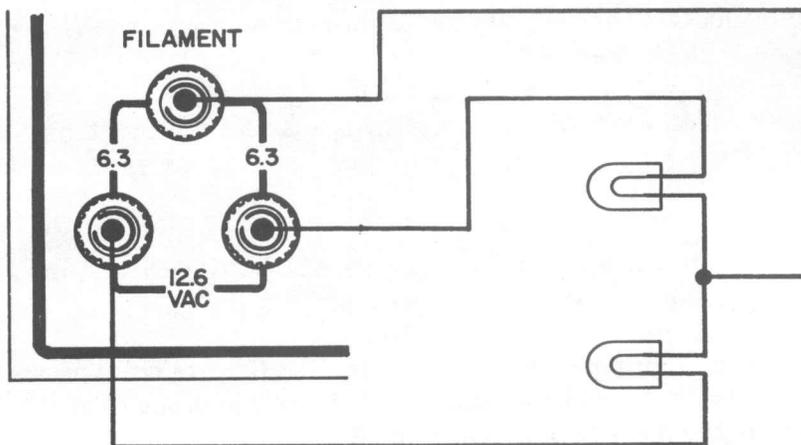

FIGURE 2-1
1. Using Figure 2-1 and the space provided, draw a circuit showing two 6.3 VAC lamps, at 1.3 A each, connected to the 12.6 VAC binding posts.
2. Will the circuit breakers hold for the circuit of Figure 2-1? Yes
3. If the current rating of each lamp in Figure 2-1 were doubled, would the circuit breakers hold? No